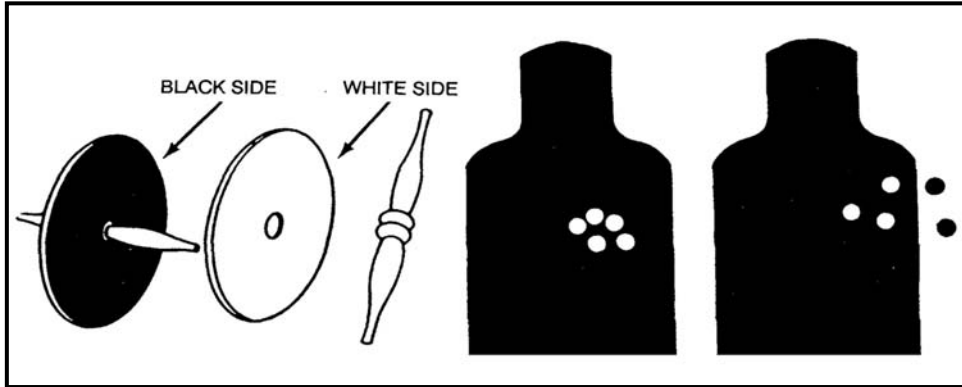

Figure 5-22. Target marking with spotters (markers).
c. **Marking the KD Range Targets.** When the initial shot group is fired, target spotters/markers (Figure 5-22, page 5-20) should be placed in each bullet hole, placing the white side on the silhouette and black side off the silhouette. This procedure ensures the firer can see where the rounds impacted. Instructors-trainers can observe the firer's performance and focus their attention on the soldiers having the greatest problems. Soldiers are motivated to fire better since their peers can observe their performance. On the second and subsequent shot groups, the target spotters/markers should be moved and placed in the holes of the new shot group. The old holes must be pasted, using black pastors on black and white pastors on white. Failure to paste all bullet holes makes it difficult to determine one shot group from another.